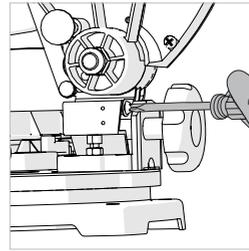

Fig. 10
- Loosen the Bevel Pointer screw using a #2 Phillips screwdriver. **(Fig. 10)**